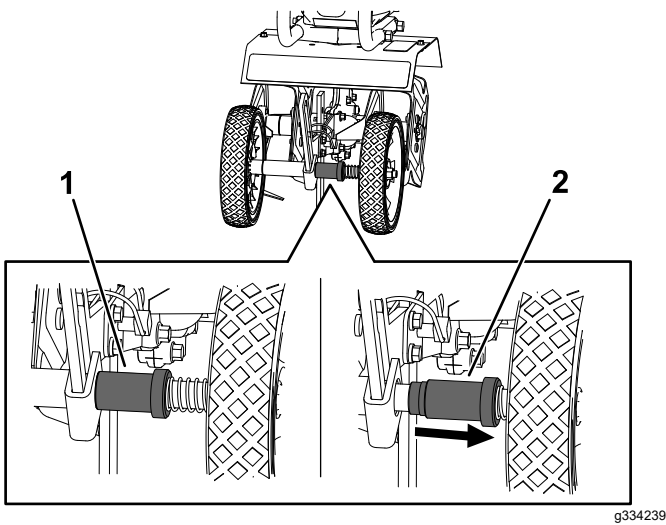

Figure 14
2. Pull the locking sleeve away out of the vertical guide to the unlocked position (Figure 14).